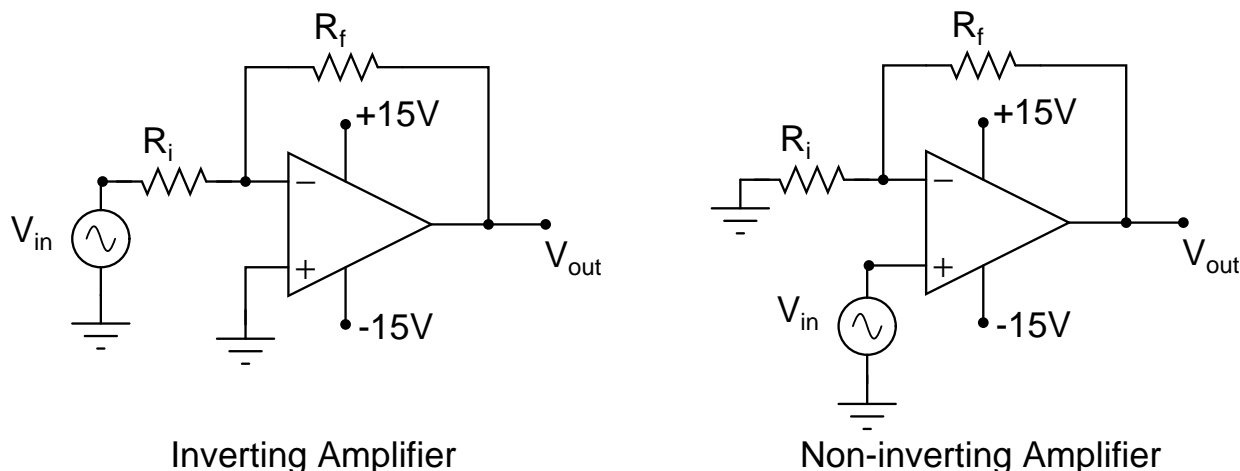

Figure 11: Basic op-amp configurations. In this example, the amplifier is powered by the dual supply ± 15 V
2. **Inverting amplifier:** This is a basic config shown in Figure 11, left. The output signal is inverted (π out of phase) relative to the input and scaled by a factor that depends on the resistor values:
3. **Non-inverting amplifier:** This is a basic config shown in Figure 11, right. The output signal is in phase with the input. The input-output relation is given by: